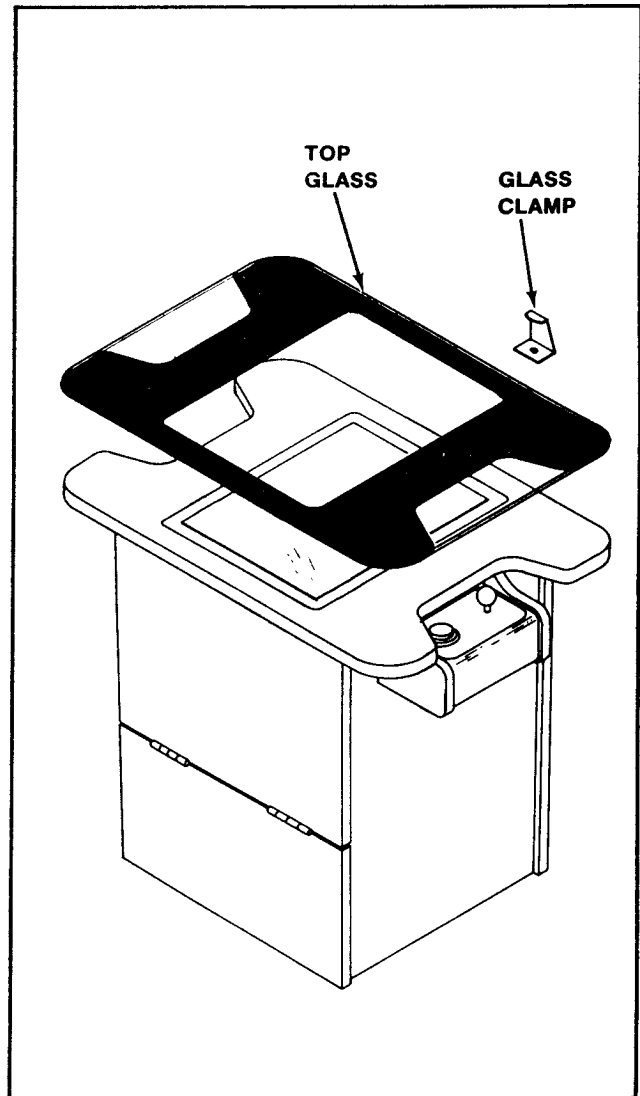

Figure 4-8 Removing Top Glass & T.V. Bezel — Cocktail
- ☐ Remove the screws which secure the table top glass clamps in place. See Figure 4-8.